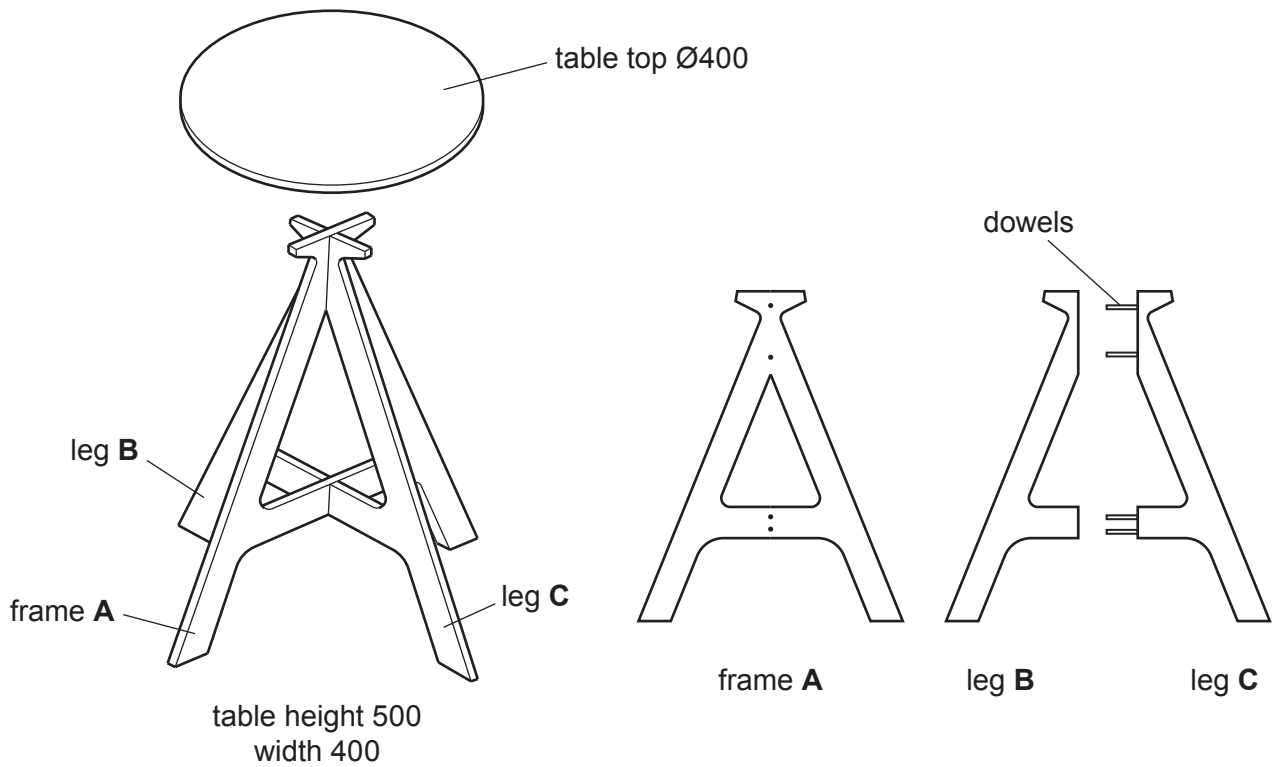

Fig. 11.1
- 11 Fig. 11.1 shows views of a small table made from 15 mm thick plywood. The table top has been removed to show details of the frame and legs. Legs **B** and **C** are joined through frame **A** by means of dowels.